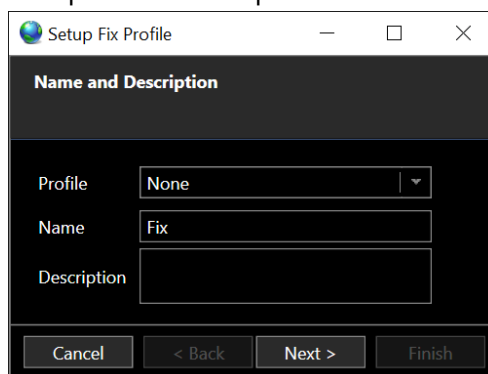

FIGURE 14-102 POSITION FIXES - SETUP FIX PROFILE – NAME AND DESCRIPTION PAGE
- a. Selecting **New** in Position Fixes, Data Ribbon. This will open the Setup Fix Profile wizard (see Figure 14-102)
Click the button to open the Setup Fix Profile wizard (see Figure 14-102)